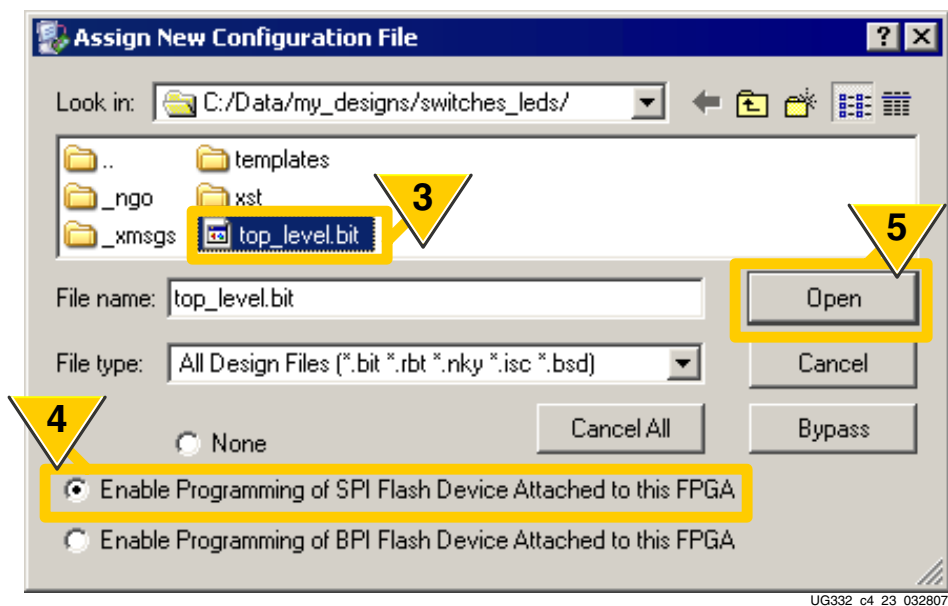

Figure 4-22: Select the FPGA Bitstream File and Enable SPI Programming
3. Select the FPGA bitstream file (*.bit) to be programmed into the FPGA, as shown in Figure 4-22. This step is superfluous but required for iMPACT 9.1i. This step will be eliminated starting in iMPACT 9.2i. This file is *not* the special FPGA-based SPI programming application.